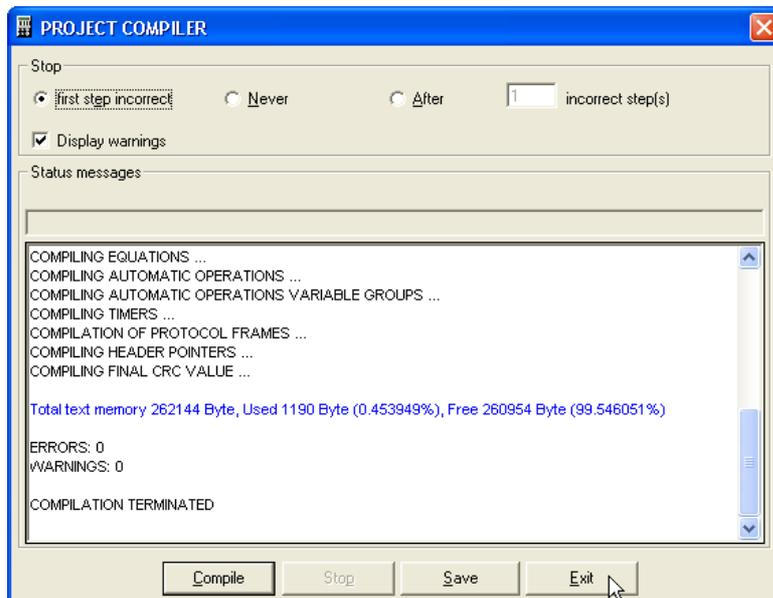

Fig. 36.
3.32 When the compilation process is finished, click on *Exit* as shown in Fig 36.